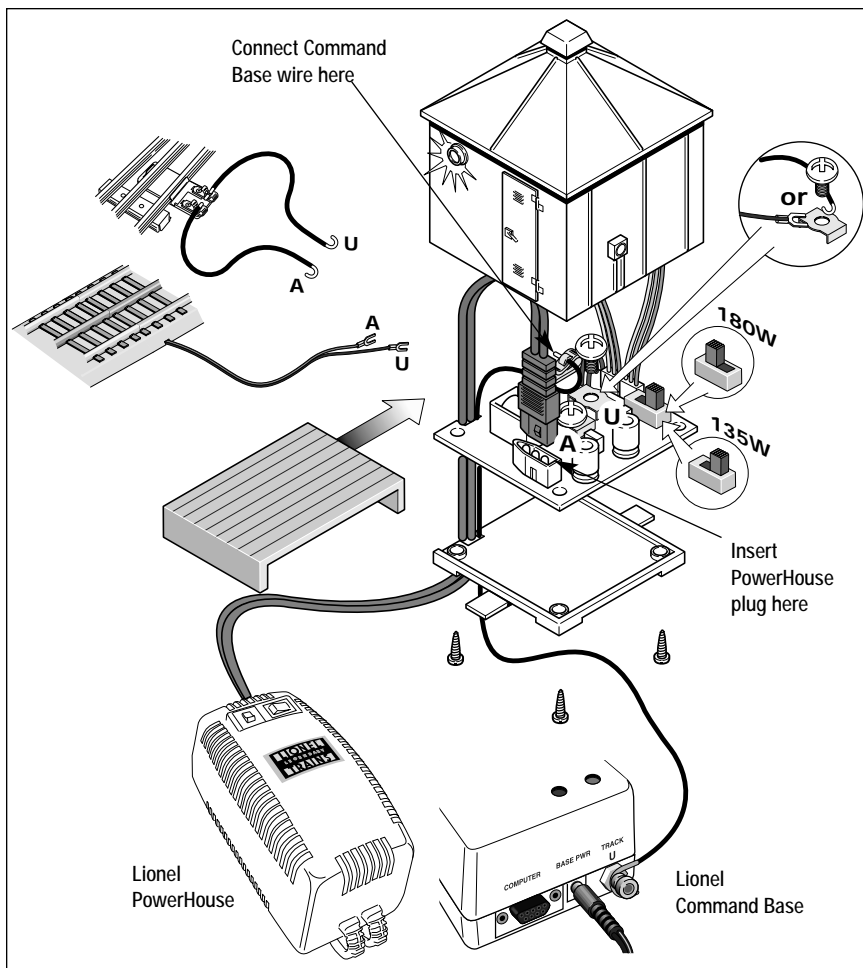

Figure 1. Direct Lockon connections and switch location
The PowerHouse Power Supply and Command Base connections are found inside of the structure. Follow these steps and refer to Figure 1 as you make these connections.
- 6. Route the PowerHouse Power Supply cord and the Command Base wire through the slot as illustrated in Figure 1.**